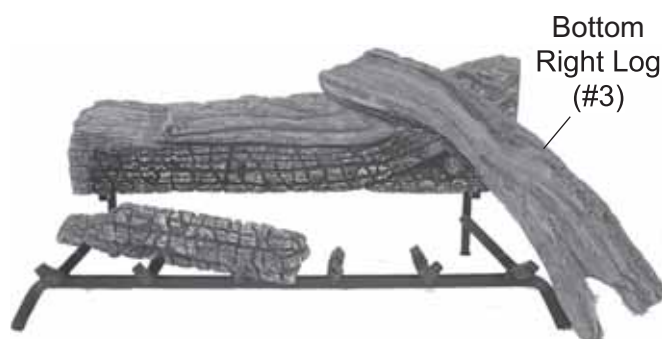

Figure 87 - Placing Bottom Right (#3) Log on Grate
4. Place end of Bottom Right Log #3 on cutout of back log #1. Rest other end of right bottom log to the outside of right grate prong. *See Figure 87.*